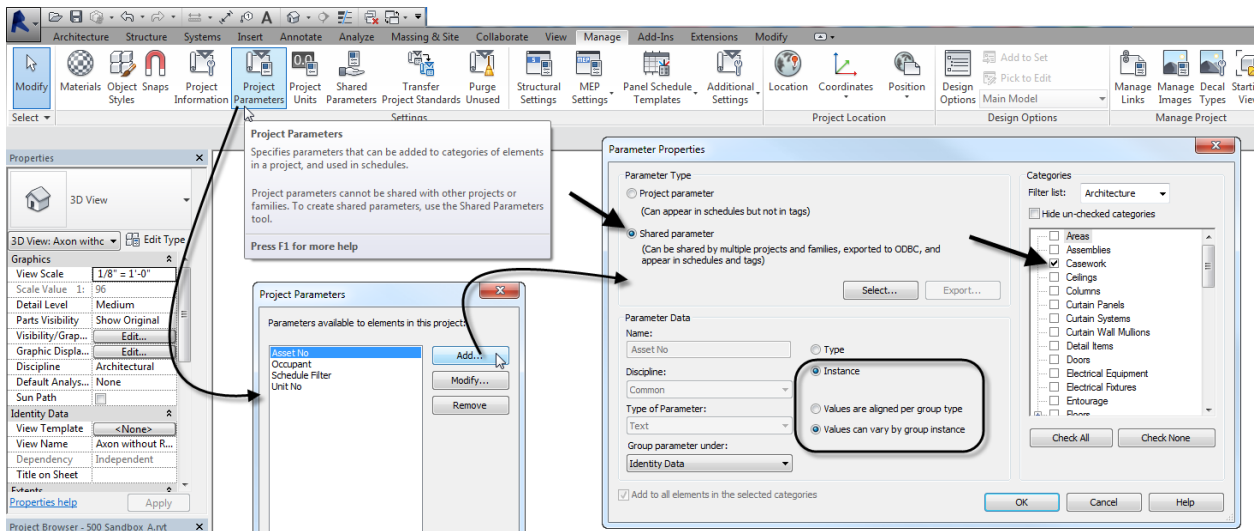

Figure 11—Add a new Project Parameter
5. Optionally change the Group parameter under setting. Finally, on the right from the category list, select one or more categories (such as Casework) for this parameter (see Figure 11).